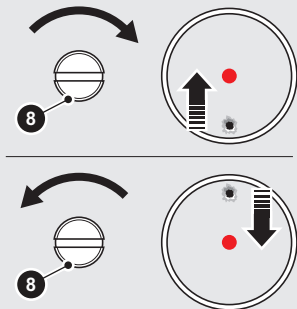
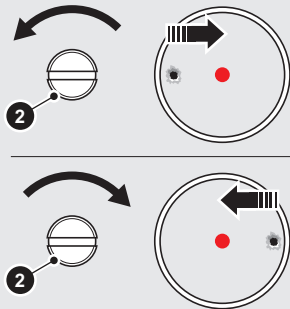

Fig. 6 Adjust point of impact (elevation)
Fig. 7 Adjust point of impact (windage)
- Adjust the position of point of impact in relation to the red dot with the elevation adjustment screw (8) and the windage adjustment screw (2) using a screwdriver or knife (see Fig. 6 and Fig. 7).